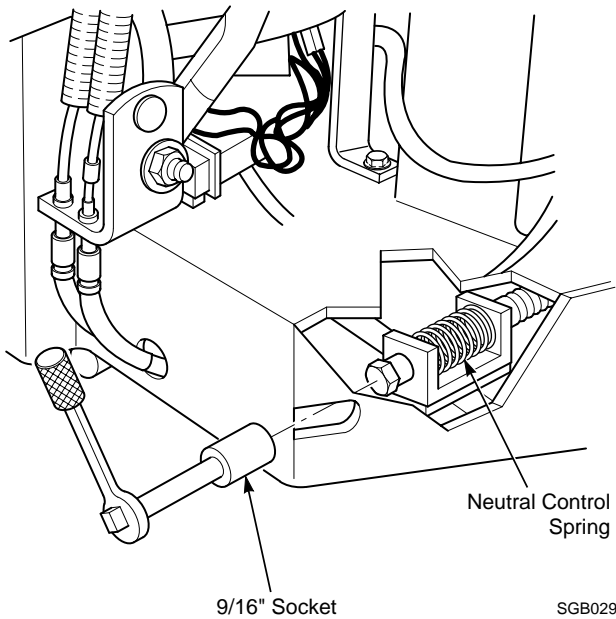

Figure 6-2. Neutral Adjustment
4. If the drive wheels rotate in the forward travel direction, turn the adjustment bolt clockwise until the tire rotation stops. If the drive wheels rotate in the backward travel direction, turn the adjustment bolt counter-clockwise until the tire rotation stops. See Figure 6-2.